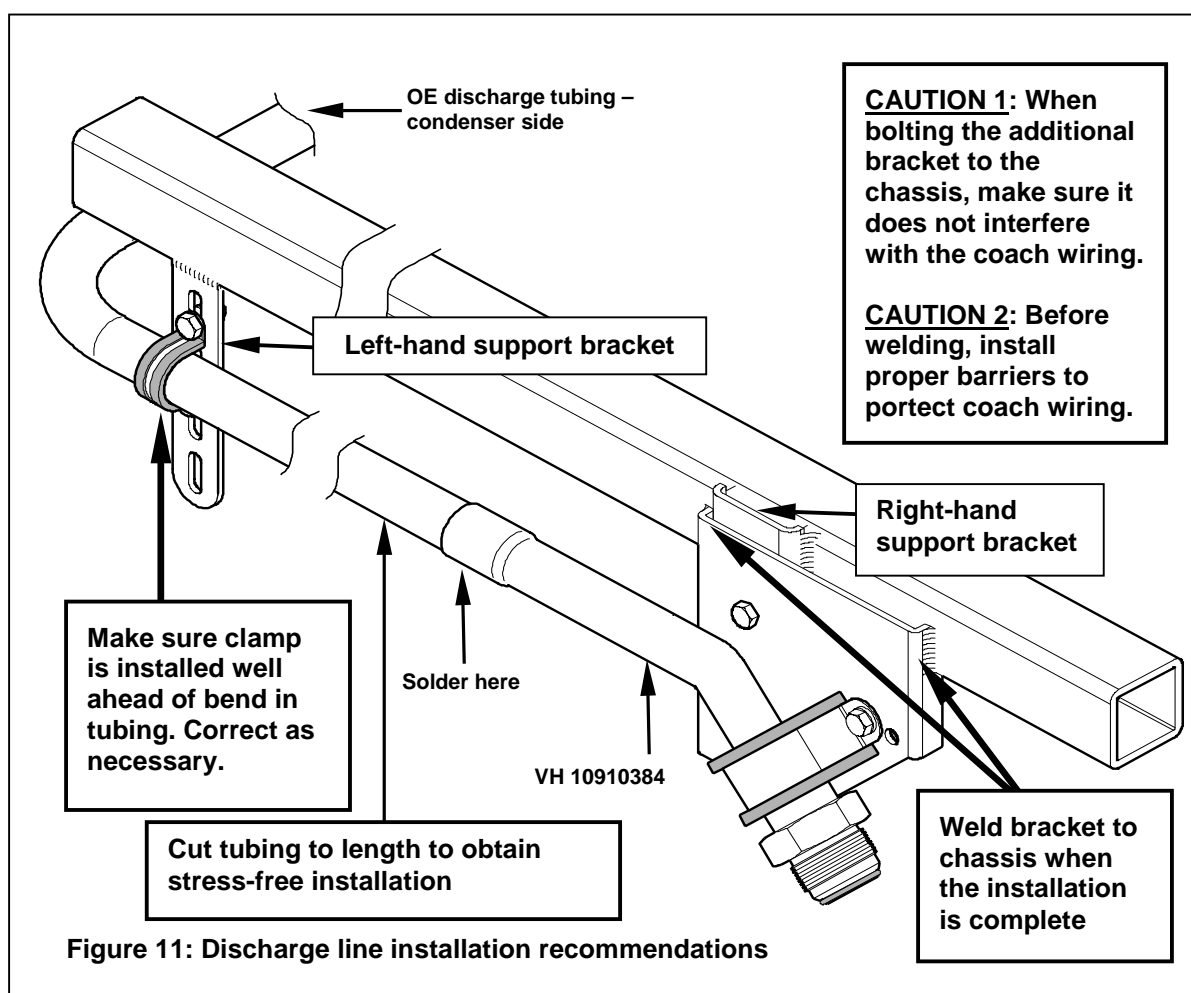

Figure 11: Discharge line installation recommendations
- 6) Referring to the installation recommendations in Figure 11 and using tube and fitting assembly VH 10910384 as a template, mark and cut the discharge line tubing to suit.
- 13) Weld bracket VH 10901886 to the chassis tubing in the places indicated in Figure 11.
- 14) Assemble and install the copper discharge line, mounting rubber and hardware as shown in Figure 11. The discharge line is now supported by mounting rubber VH 10901210 and clamp VH 10901212 only.
- 15) Secure the discharge line to the LH support bracket using the recovered clamp and fasteners (see Figure 11).